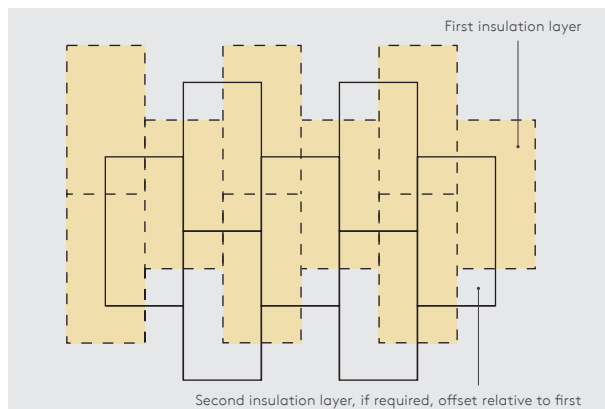

Figure 12: Offsetting of multiple insulation layers
- If two layers of insulation are required, they should be horizontally offset relative to each other so that, as far as possible, the board joints in the two adjacent layers do not coincide with each other (see Figure 12).